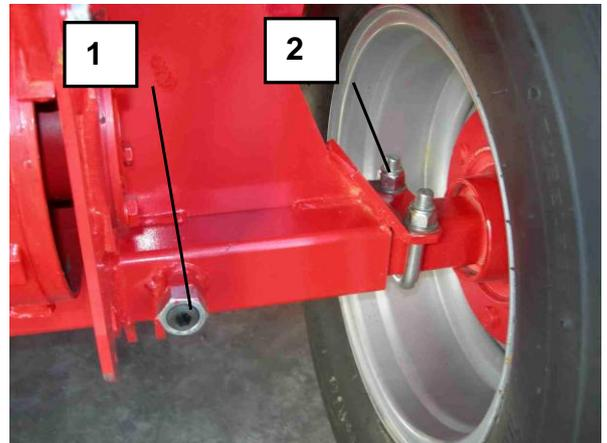

Fig 7 -Axle
Control before starting and working that the axle must be in correct position and that the screws (1) and (2) Fig. 7 are locked.
- Make sure the round baler is in a stable, horizontal position and that the tractor’s towing hitch is positioned at the same height as the towing eye of the drawbar (2 Fig. 7) which can be adjusted by means of the joints (A Fig. 7). Where necessary, lower or raise the drawbar towing eye using the support leg (1 Fig. 7) .
For working in mountain, hill and in presence of high slopes, for obtaining a wider carriage-way, release the screws of U-bolt (2 fig.7) and unscrew the screw (1 Fig.7), take of the hub in the necessary position and screw again.